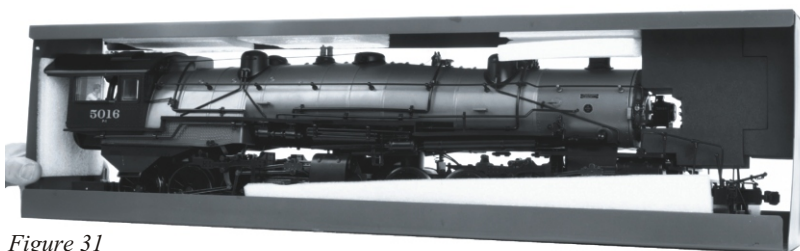

Figure 31
19. Reattach the top panel of the shipping frame using the 4 screws supplied. Do not fully tighten any of the screws until all 4 have threaded into the holes. As shown in Fig. 31.